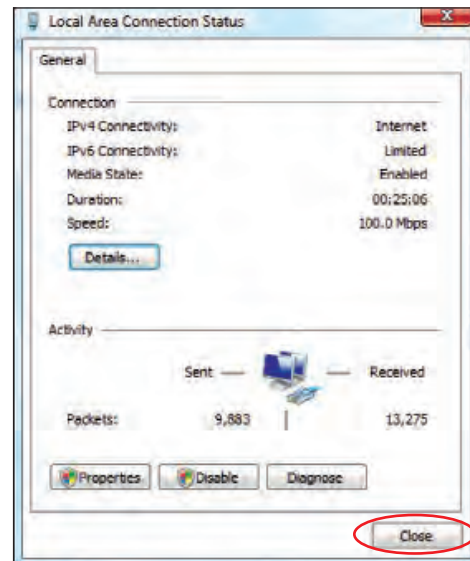

Figure B-12. Local Area Connection Status.
12. Select **Close** (Figure B-12). You can now close any additional windows.